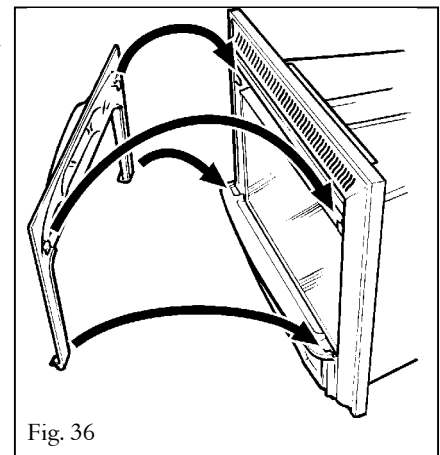

Fig. 36
7.10.2.2 Rest the upper front casting on the bottom casting. Then slightly lift the upper casting and attach it to the appliance by hooking the two steel locators at back of the casting over the brackets inside the top corners of the front frame (see fig. 36).